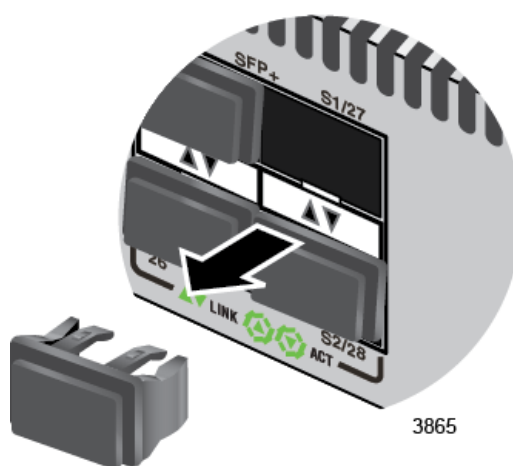

Figure 56. Removing the Dust Plug from the S1 Slot
1. Remove the dust plug from the S1 slot on the top switch of the stack, as shown in Figure 56.